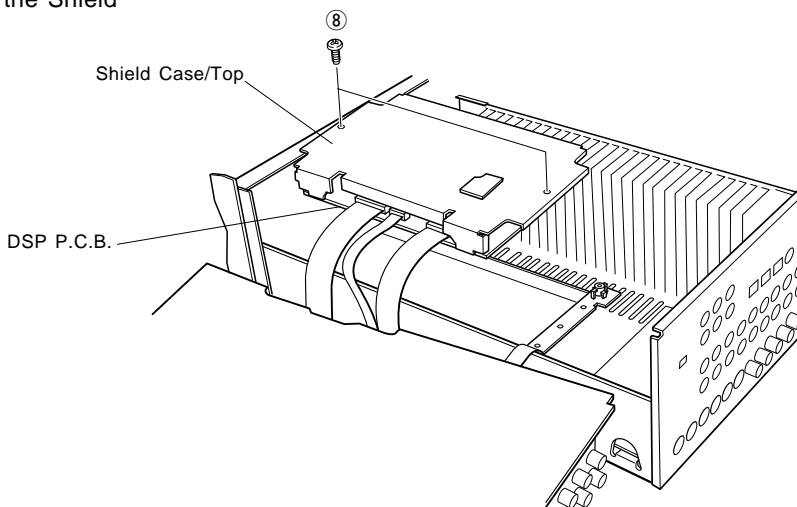

Fig. 4
- a. Remove 2 screws (⑧) and then remove the Shield Case/Top with the DSP P.C.B. in Fig. 4.